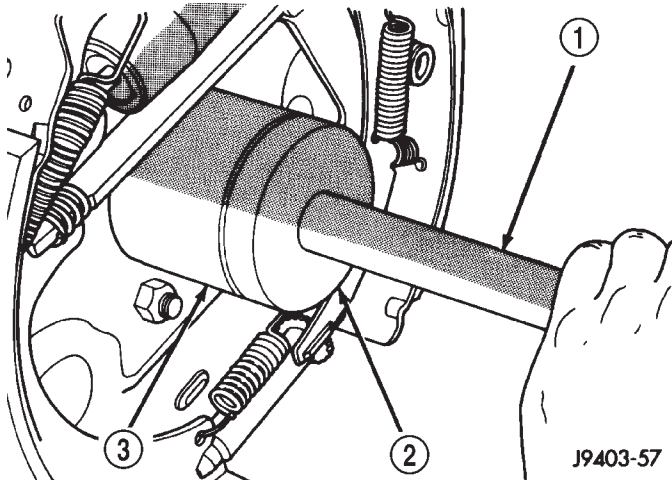

Fig. 12 Axle Shaft Seal and Bearing Installation
(2) Install the axle shaft bearing with Installer C-4198 and Handle C-4171 (Fig. 12). Ensure that the bearing part number is against the installer. Verify that the bearing is installed straight and the tool fully contacts the axle tube when seating the bearing.